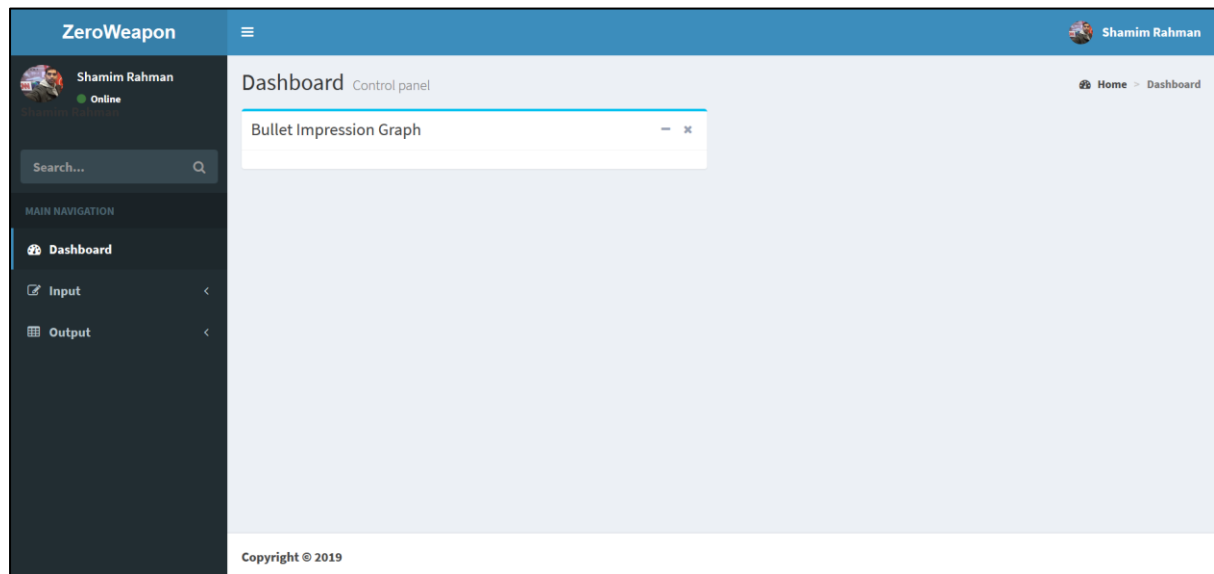

Figure 2.3 Web based Management System Dashboard
- Getting logged into the system, the user will find a dashboard (Figure 2.3). Dashboard will help the user to navigate to all other web pages of the system.